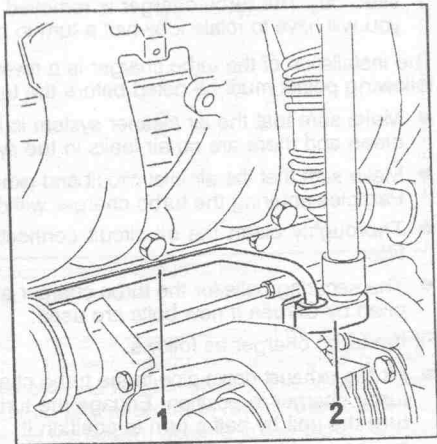

Fig. 1.98. — Oil inlet pipe union removal.
- Disconnect the flexible pipe of inlet pressure (4).
- The union securing the oil inlet pipe must now be slackened. This is where the "Crowfoot" spanner comes into action. Place the spanner (2) in Fig. 1.98 around the union nut and insert an extension with quare drive from above over the spanner.
- The oil inlet pipe union is tightened to 2.0 kgm (14 ft.lb.). The spanner shown in Fig. 1.98 must be used.